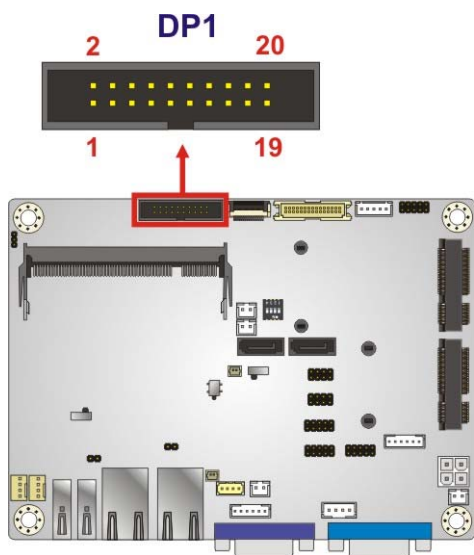

Figure 3-9: Display Port Connector Location
- CN Location:** See **Figure 3-9**